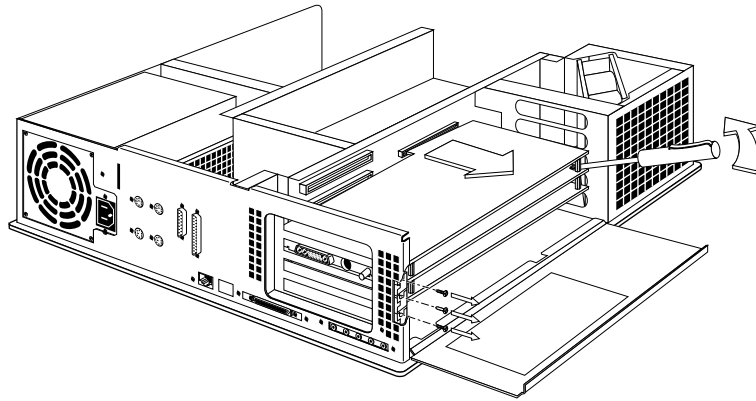

Figure 3-7 Sliding the graphics board set out of the chassis
6. Slide the graphics board set out of the chassis, as shown in Figure 3-7.